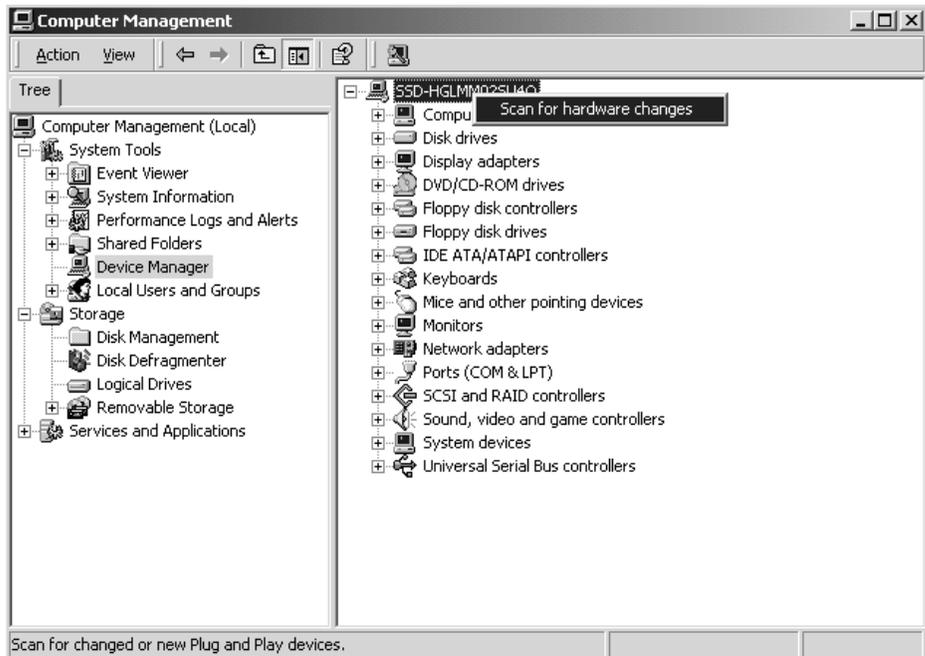

Figure 33. Scan for Hardware Changes Menu
15. If Ultrium devices are not listed, right-click your computer name in the rightmost window, then click **Scan for Hardware Changes**. See Figure 33.